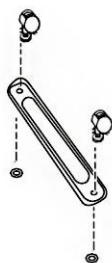

Fig. 1
1. Fix the wheels in the brackets with the screw. Refer to fig. 1.